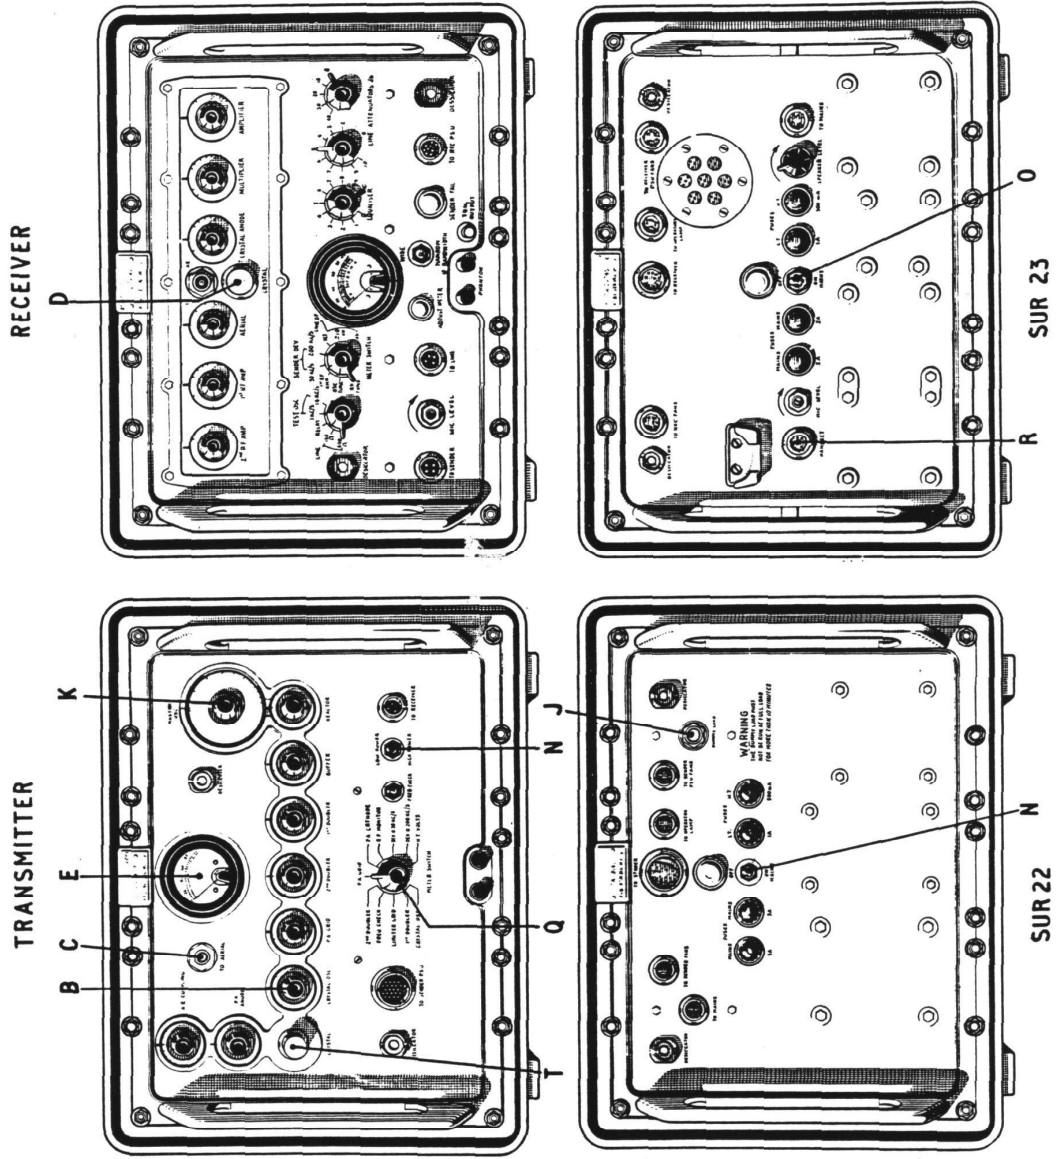

FIG. 8 CONTROLS
- (1) Check the colour of the DESICCATORS on the front panel of each of the four units. If the sealing of the units is unimpaired, and the units are completely dry, the DESICCATORS will be blue. Should the DESICCATORS have turned pink, they are saturated, and the units concerned should be returned to workshops to be dried out and re-sealed.
- (2) Disconnect the aerial lead from the Transmitter, and fit the short co-axial connector between the aerial plug (C) on the Transmitter and the plug (J) on the SUR No. 22 marked DUMMY LOAD.
- (3) Fit the plug on the handset line-cord into the socket (R) on the SUR No. 23 and tighten the locking ring firmly by hand. (The loudspeaker is inoperative until the plug is in position).
- (4) Ascertain the operating frequencies and fit the appropriate crystals into the holders on the front panels of the Transmitter (T) and Receiver (D), taking care that only crystals marked "S" are used in the Transmitter and those marked "R" in the Receiver. The covers should be replaced and tightened firmly by hand.
- (5) Switch on the power supply to the Transmitter (SUR No. 22) Fig. 8 (N) and Receiver (SUR No. 23 (O)), and allow not less than thirty minutes for the equipment to reach optimum working temperatures.